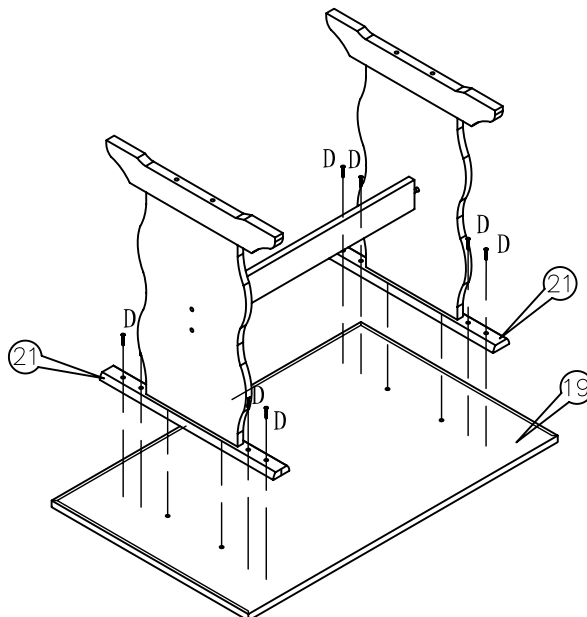

FIGURE 4
- 1) ATTACH ASSEMBLED LEGS TO TABLE TOP #19 THROUGH FITTING WOOD DOWELS PRESENT IN UPPER SIDE OF TOP SUPPORTS #21 INTO HOLES LOCATED UNDERNEATH OF TABLE TOP #19 AS SHOWN IN FIGURE 4. IT SERVES AS GUIDE ENABLING YOU TO CONNECT THE LEGS IN CORRECT POSITION.
- 2) USING PRE-DRILLED HOLES AS GUIDE, SECURE CONNECTION WITH (08) SCREWS (D) DRIVEN WITH SCREWDRIVER AS SHOWN IN FIGURE 4.
- 3) USING HELP, GENTLY FLIP TABLE WITH BOTH LEGS ON FLOOR AS SHOWN ON PAGE 1. HOLD ON ALLEN WRENCH (J) AND PERIODICALLY CHECK ALL CONNECTIONS FOR TIGHTNESS.